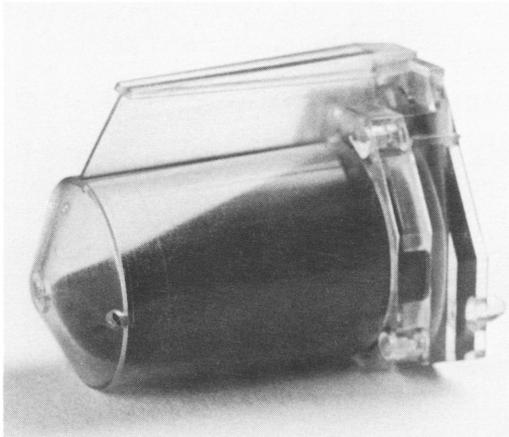
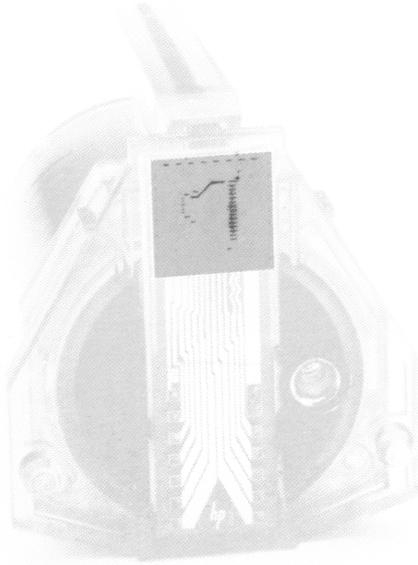

Figure 4-1 Empty Cartridge
Figure 4-2 Wipe Area
6. Print quality is poor.	<ul style="list-style-type: none"> <li>• Check that there is sufficient ink in the cartridge by viewing the bladder. If the bladder is collapsed, replace the cartridge. See Figure 4-1.</li> <li>• Check that the paper used is an ink jet paper.</li> <li>• Gently wipe the face of the print head using a tissue to remove any accumulated dust. See Figure 4-2. If the print head cartridge has not been used for a prolonged period, moisten the tissue with water before wiping.</li> </ul>
7. Dot rows are missing.	<ul style="list-style-type: none"> <li>• Gently wipe the face of the print head using a tissue to remove any accumulated dust. See Figure 4-2. If the print head cartridge has not been used for a prolonged period, moisten the tissue with water before wiping.</li> <li>• Lightly wipe the electrical connector of the print head carriage using a cotton swab dipped in alcohol.</li> <li>• If the problem continues, replace the print head cartridge.</li> </ul>
8. Carriage moves but printer does not print.	<ul style="list-style-type: none"> <li>• Check that there is sufficient ink in the cartridge by viewing the bladder. If the bladder is collapsed, replace the cartridge. See Figure 4-1.</li> <li>• Gently wipe the face of the print head using a tissue to remove any accumulated dust. See Figure 4-2. If the print head cartridge has not been used for a prolonged period, moisten the tissue with water before wiping.</li> <li>• Lightly wipe the electrical connector of the print head carriage using a cotton swab dipped in alcohol.</li> <li>• If the problem continues, replace the print head cartridge.</li> </ul>